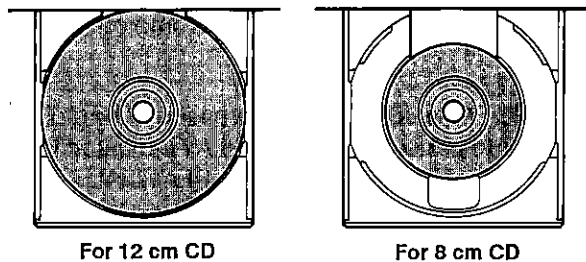

Fig. 8
3. Without touching the disc surface, place the disc in the tray with the label facing upward (Fig. 8).